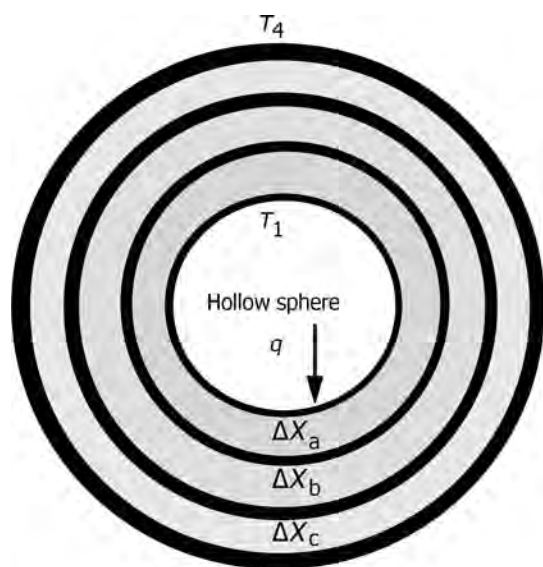

FIGURE 8.11 Multilayer hollow sphere.
- Multilayer hollow sphere: One-dimensional heat conduction ((Figure 8.11).